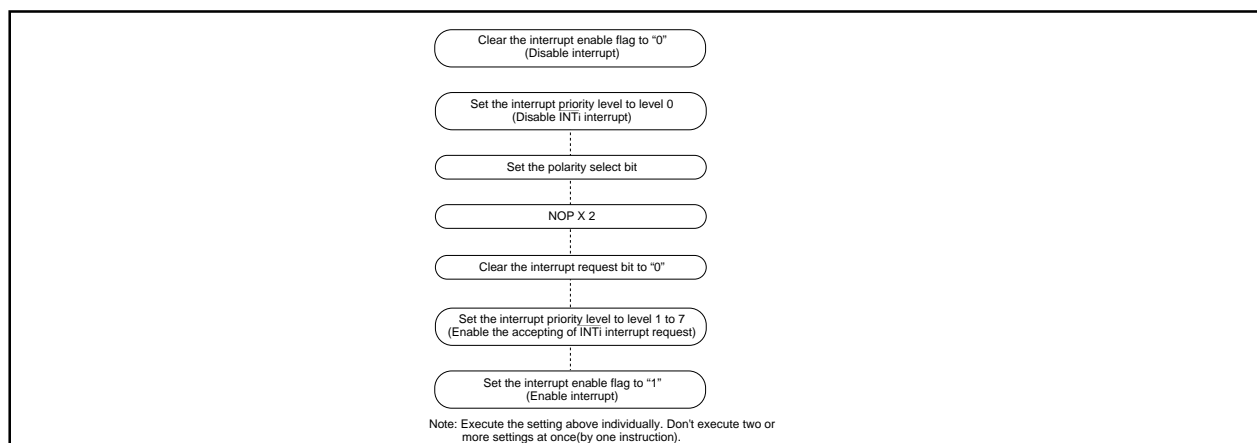

Figure 1.10.13. Switching condition of INT interrupt request
(2) Setting the stack pointer
(3) The $\overline{\text{NMI}}$ interrupt
(4) External interrupt
- When the polarity of the $\overline{\text{INT0}}$ to $\overline{\text{INT2}}$ pins is changed, the interrupt request bit is sometimes set to "1". After changing the polarity, set the interrupt request bit to "0". Figure 1.10.13 shows the procedure for changing the $\overline{\text{INT}}$ interrupt generate factor.